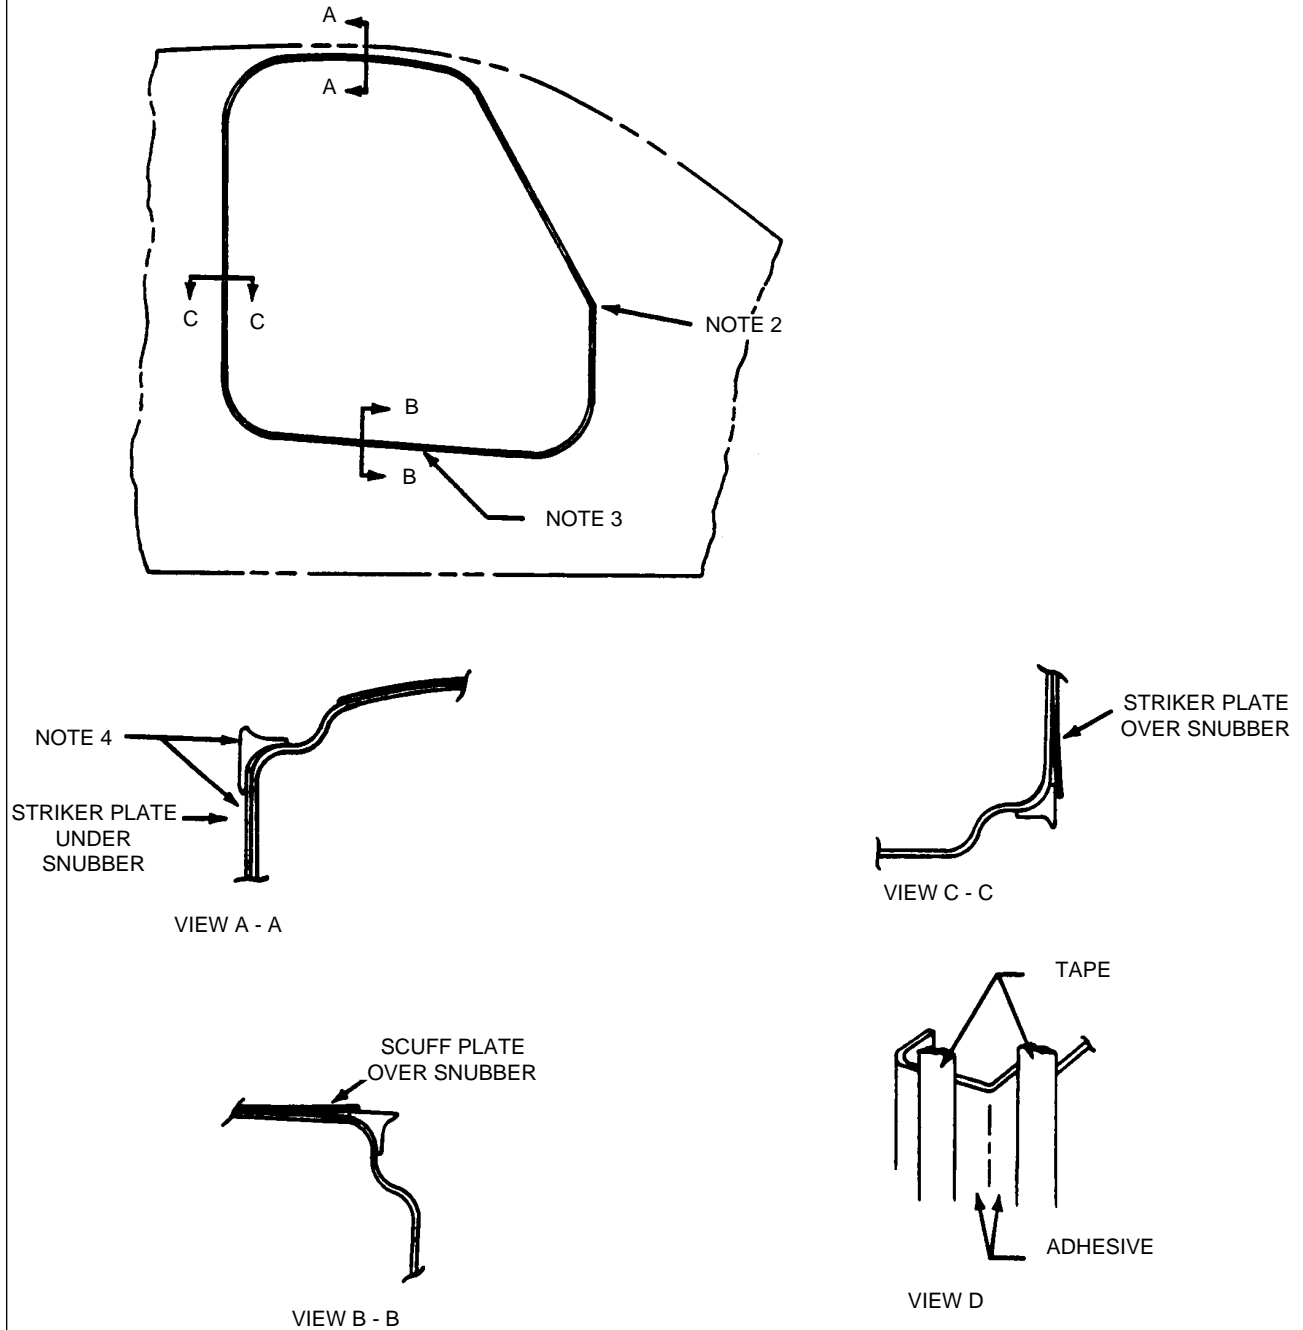

Figure 4-7. Door Seal Snubber Installation
- a. If the existing door seal is torn or has deteriorated it should be replaced. If rebonding is required use (1). 3M EC I 300L (preferred) OR (2.) Proco Adhesive 6205-1 (3). Scotch Grip 2210
- d. Remove the sticker plate. (Refer to Figure 4-7.)
2. To effect a clean installation it is recommended that the door jamb be masked off with tape as shown in Figure 4-7, View D.
3. Apply adhesive to the door jamb with a small brush on the area indicated in Figure 4-7, View D.